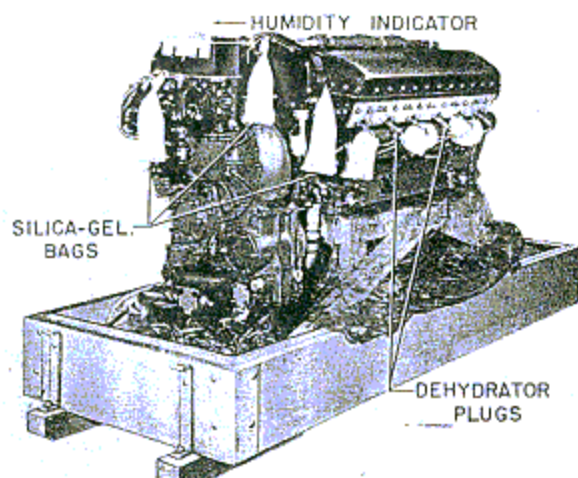

Figure 15—Pliofilm Bag Removed Showing Dehydrating Units
(2) Remove the pliofilm envelope and the canvas shipping cover. Remove the 12 silica-gel bags from around the engine. Remove silica-gel bags from carburetor. Remove the carton of spark plugs, tool kit and packing list from the crate base. (See figure 15.)
(3) Attach a four-legged engine harness to engine in the following manner: Hook the lifting ring to the hoist, then pass two of the harness cables for-